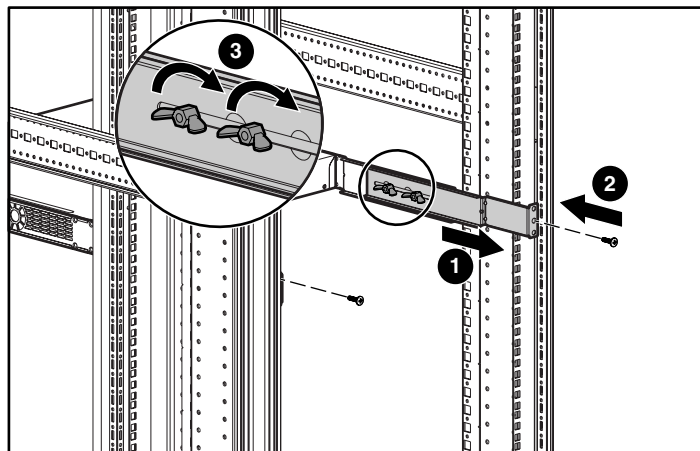

Figure 12: Securing the rear of the rails
8. Adjust ❶ and secure the rear of the rails using the rack screws ❷ (see Figure 12).
9. Secure ❸ the rail halves by tightening the wing nuts.